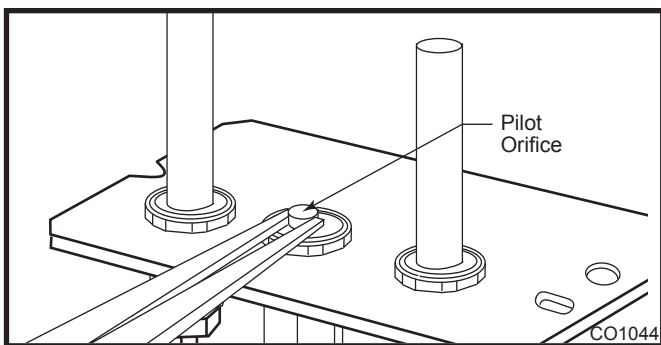

Fig. 71 Remove pilot orifice.
- Remove pilot orifice with needlenose pliers. (Fig. 71) **NOTE:** Use a wrench to hold pilot tube in place while removing the orifice.